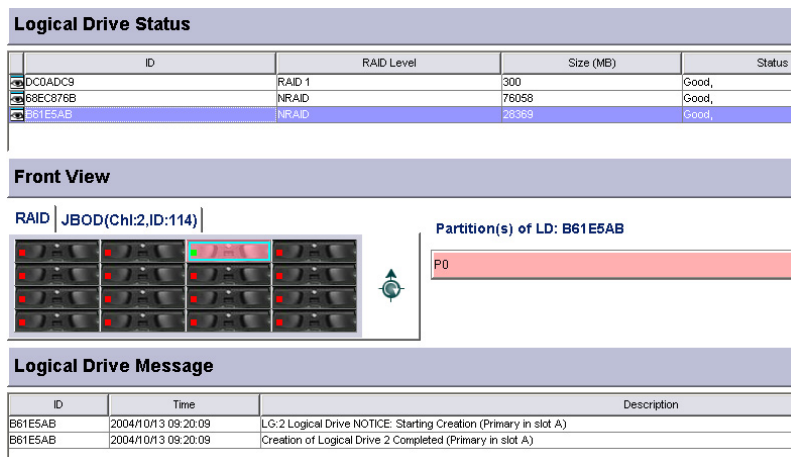

Figure 6-18: Logical Drive information
The **Logical Drive Information** window shown in *Figure 6-18* provides the configuration, management, and monitoring functions available in RAIDWatch. The Logical Drive View window includes three (3) sub-windows: Logical Drive Status, Front View, and Logical Drive Message.